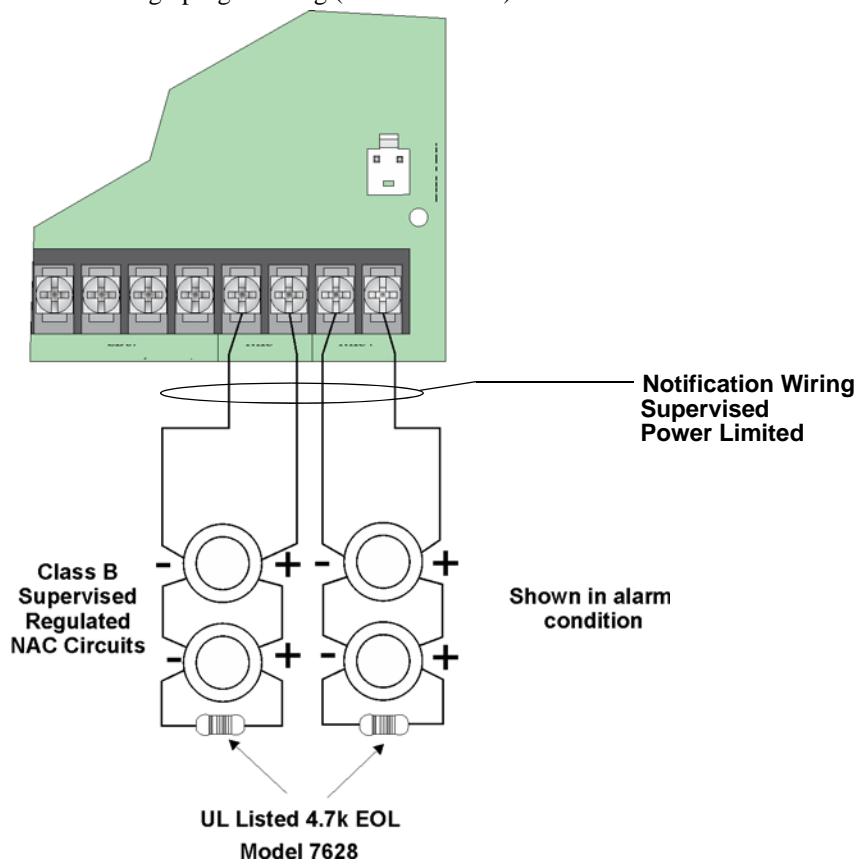

Figure 4-29 Class B Notification Appliance Circuit Wiring
1. Wire Class B Notification appliances as shown in Figure 4-29.